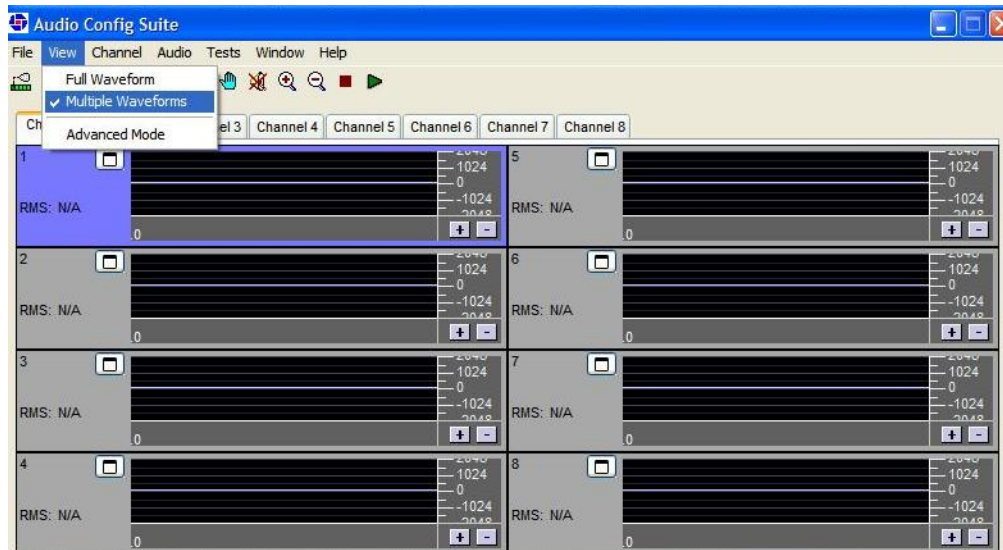

Figure 8-23 - Using the audio analysis tool to select *Multiple Waveforms*
2. Select **Multiple Waveforms** (if not already visible) from the View Menu as seen in *Figure 8-23 - Using the audio analysis tool to select Multiple Waveforms*;